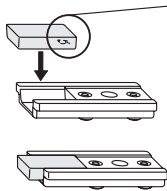

Fig. 2
- A** Press filling piece with end position damping (**814**) into the stop (**813**) (see fig. 2).